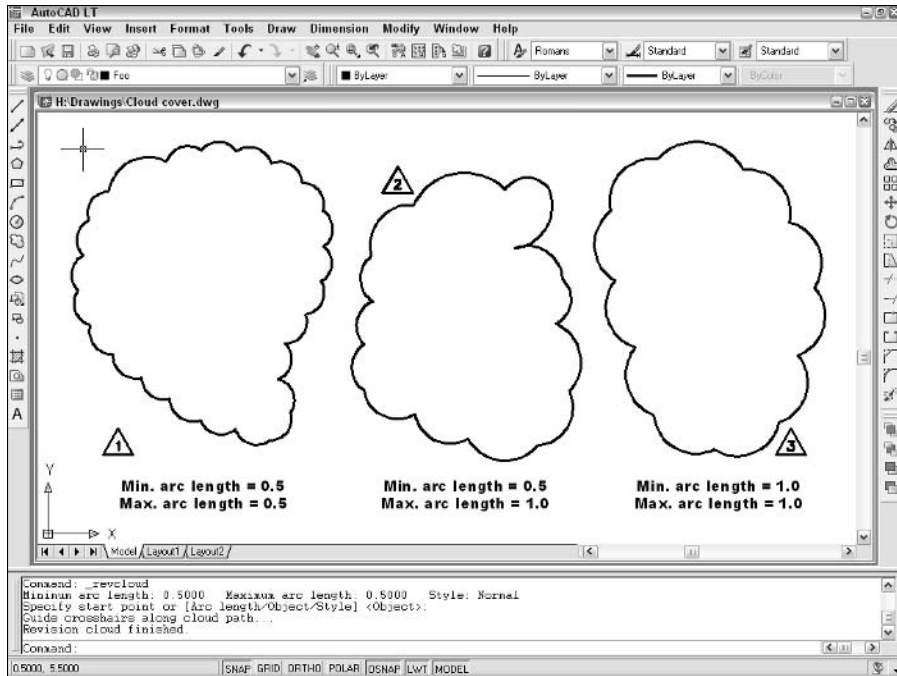

Figure 6-11:
The following example shows you how to draw a revision cloud. Figure 6-11 shows what revision clouds look like.
- ✓ You may need to add a triangle and number to indicate the revision number (refer to Figure 6-11). A block with an attribute is a good way to handle this requirement; Chapter 13 covers blocks and attributes.